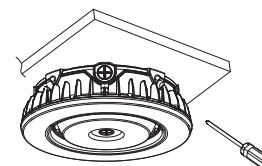

Figure 1-8
8. Lock the four screws, the product is installed. Figure 1-8